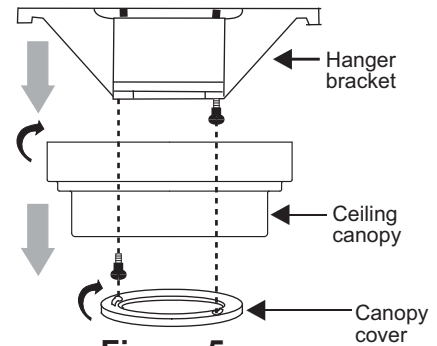

Figure 5
**Step 1.** Remove the decorative canopy bottom cover from the canopy by turning the cover counter clockwise. (Fig. 5)
**Step 2.** Remove the hanger bracket from the canopy by removing the 1 of 2 screws from the bottom of the hanger bracket and loosening the other one a half turn from the screw head. Next, turn the canopy counter clockwise to removing the hanger bracket from the canopy. (Fig. 5)